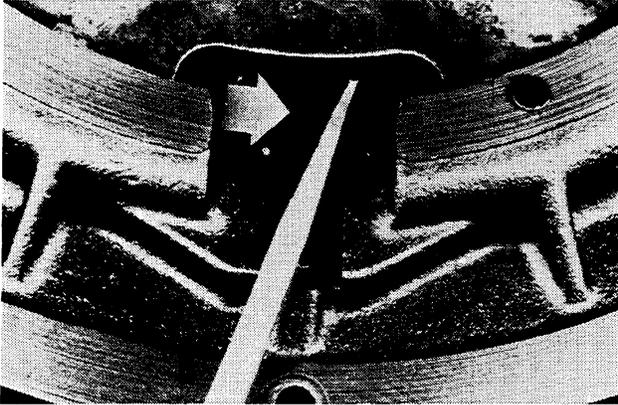

Figure 7:
7. With an assistant holding the clutch in the "released" position (or securely blocking the clutch), turn the adjusting ring "in" or "out" to obtain the desired .50 inch (12.7 mm) clearance. (Fig. 7)